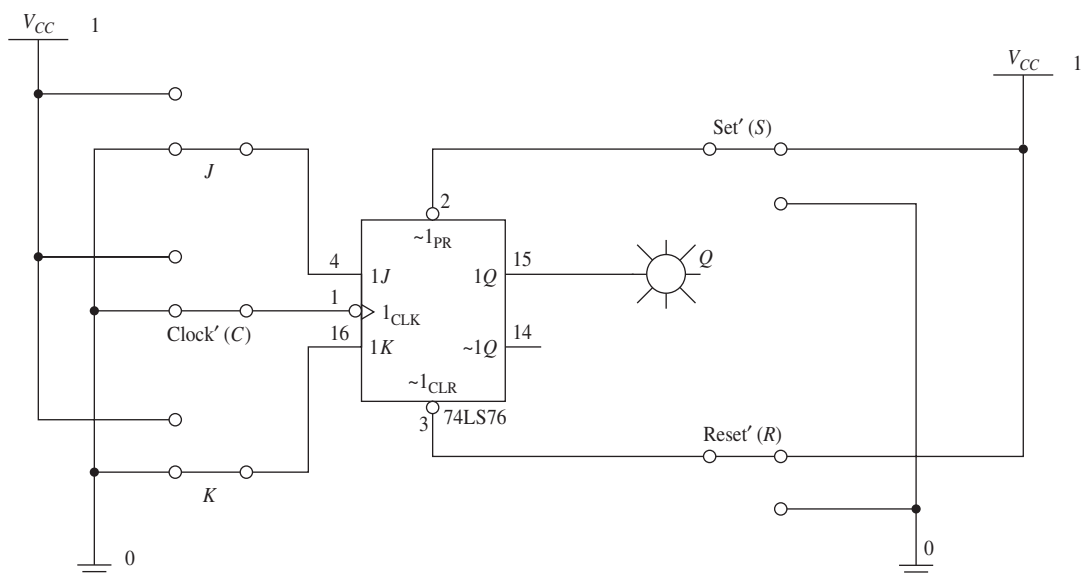

Figure 45 Using MultiSIM[®] to simulate 74LS76 J - K flip-flop operations.
Figure 45 shows a MultiSIM[®] simulation of a 74LS76 J - K Flip-Flop. [Notice that MultiSIM uses the abbreviation PR (PreSet) in place of \overline{S}_D , CLR (Clear) in place of \overline{R}_D , and CLK (Clock) in place of \overline{C}_p . Also, all terminals are preceded by the number 1 to signify that it's the first half of the dual package.] Adding switches to all of the inputs provides a means to test each of the flip-flop operating modes. For example, to provide a negative edge clock to CLK you would move the Clock input switch from the LOW position (0) to the HIGH position (1) to the LOW position (0) by pressing the letter C on your keyboard twice.